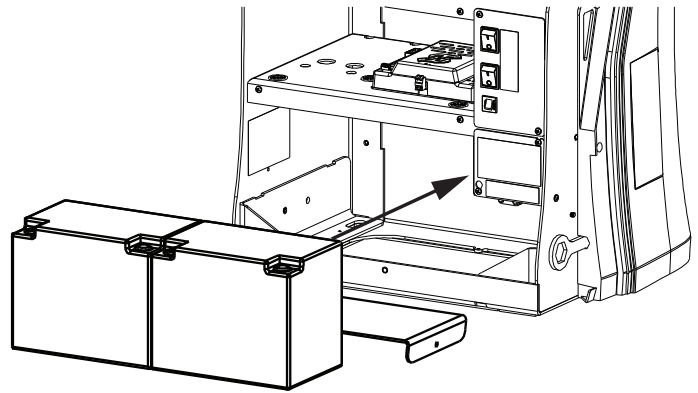

Figure 43. Extended Battery Kit
6. Install the extended battery tray at the back of the conduit cut out. (Figure 43)